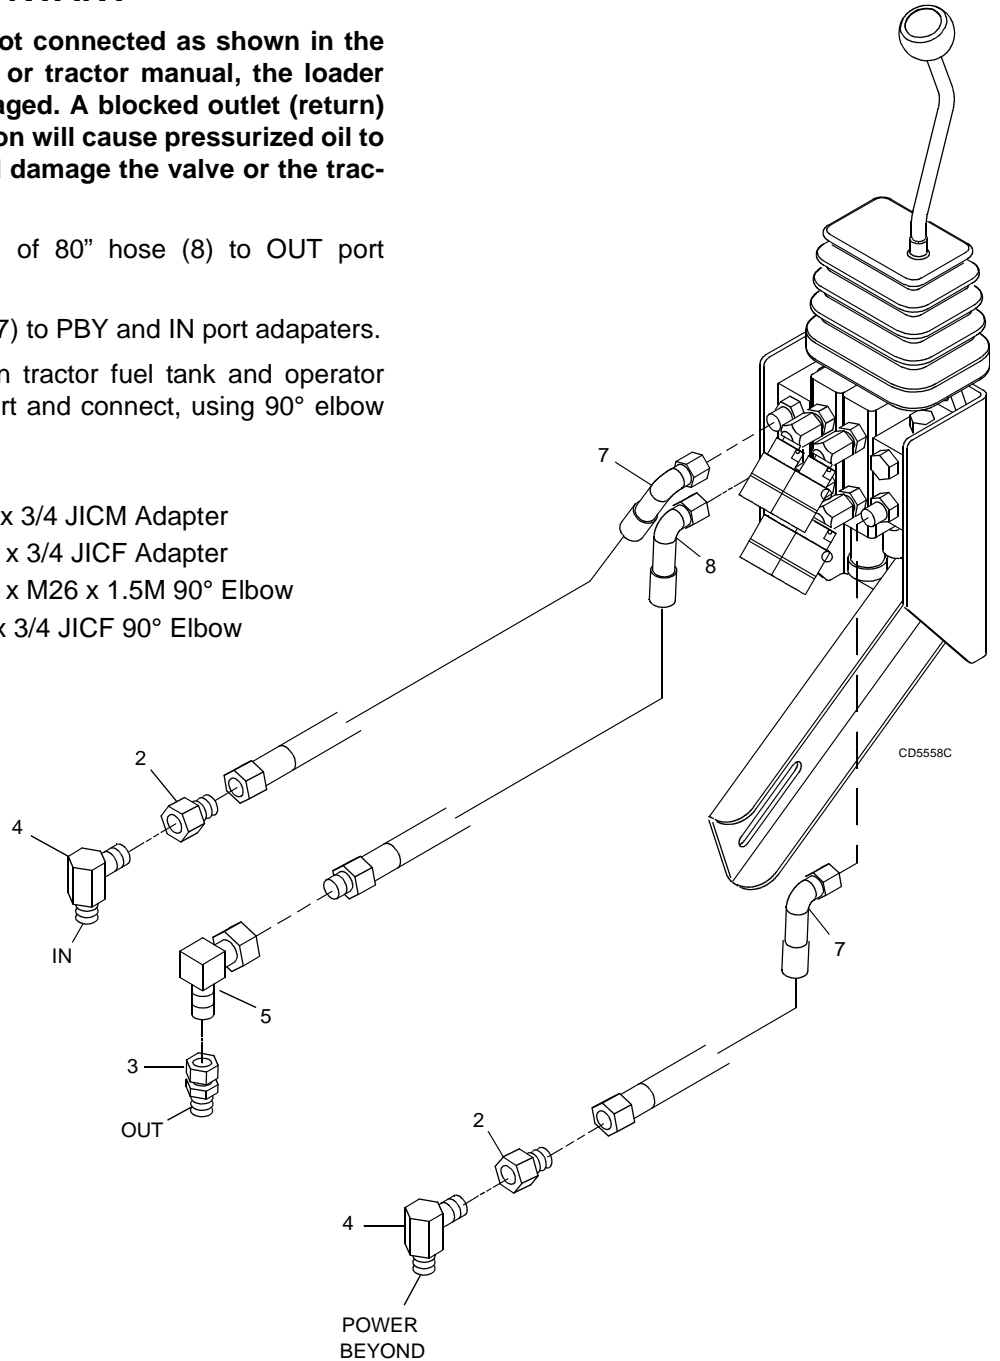
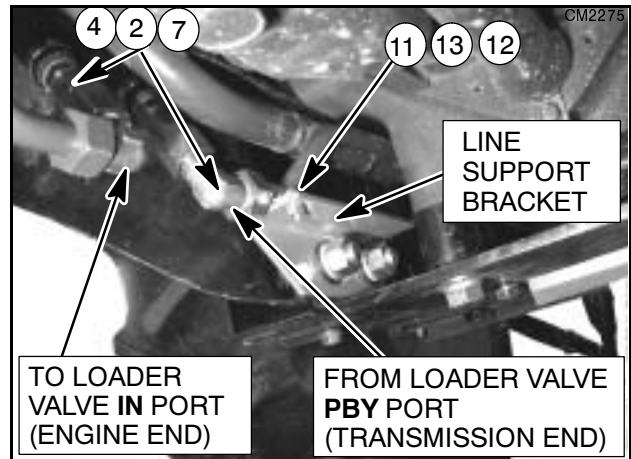

Figure 17 #40547 Hose Kit Assembly
Figure 18 Hose Hanger Bracket Installed
Refer to Figure 17 and Figure 18.
2. Connect adapters (2) to each 90-degree elbow (4) and tighten. **NOTE:** Use sealant on pipe threads.
3. Attach adapters (2) to PBY and IN hoses. Tighten finger tight.
4. Route IN hose inside the right loader mount. Install elbow onto end of tractor hydraulic line as shown in Figure 18.
5. Route PBY hose inside right loader mount. Remove plastic cap and install onto transmission end of tractor hydraulic line as shown in Figure 18.
3. Refer to Figure 18. Install the line support bracket as shown by removing nuts from right side of cross-member then re-installing. Refer to Figure 19.
4. Attach the line clamp (11) and secure the line, using cap screw (13) and nut (12).